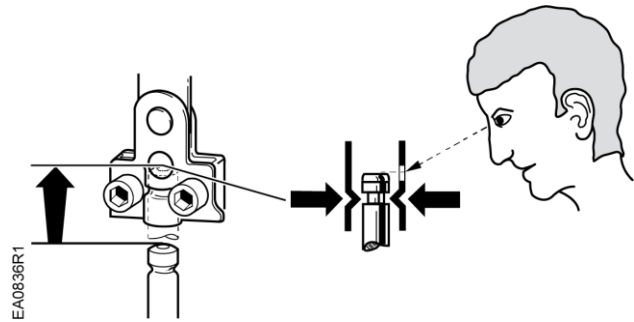

Figure 4. Proper Alignment of the Valve Stem to the Linkage Stem Coupling.
4. Align the valve stem with the linkage stem coupling. See Figure 4.
5. Insert the valve stem into the linkage stem coupling. See Figure 4.